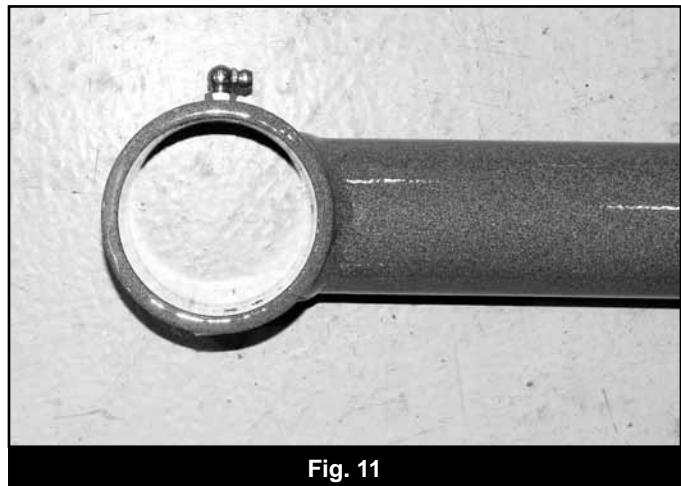

Fig. 11
29. Install the provided 90° grease fittings in the threaded holes at the bushing end of the control arms. When installed the fittings should point toward the body of the control arm. (Fig. 11)